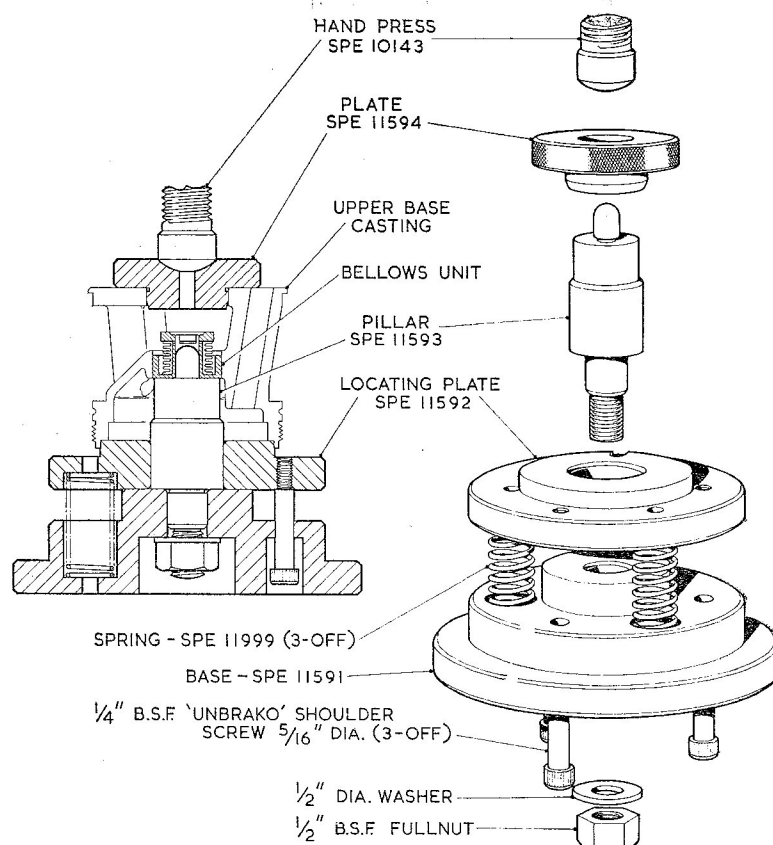

Fig. 15. Replacing the bellows unit
25. If the bellows unit (43) was removed from the upper base (42) during dismantling, use the special tools shown in fig. 15 with the hand press SPE.10143 to assemble the bellows unit into the upper base.